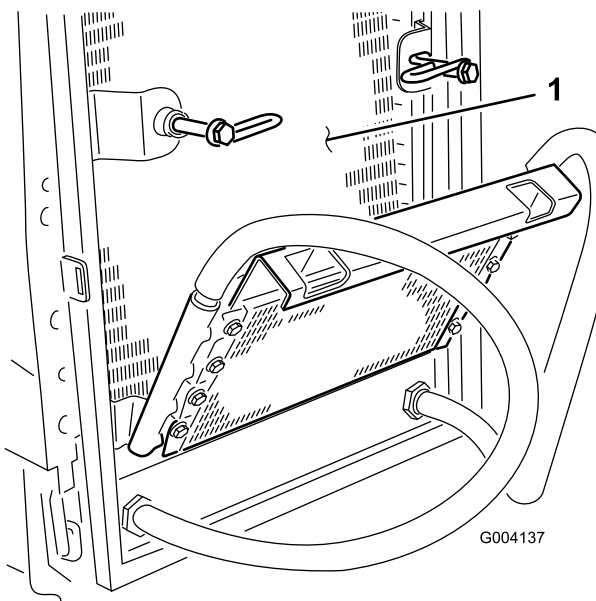

Figure 95
8. Thoroughly clean both sides of the oil cooler and the radiator (Figure 95) with compressed air.